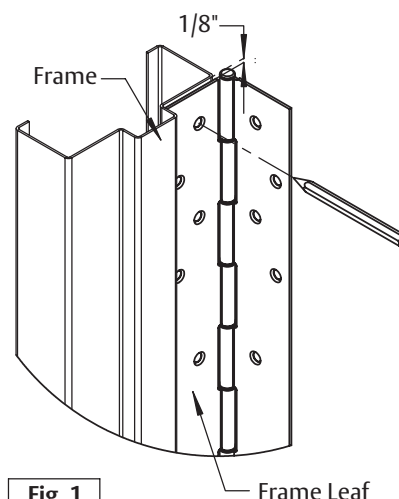

Fig. 1
- A. Place hinge frame leaf on rabbet. Position top of hinge $\frac{1}{8}$ " maximum below header (Fig. 1 & 2).